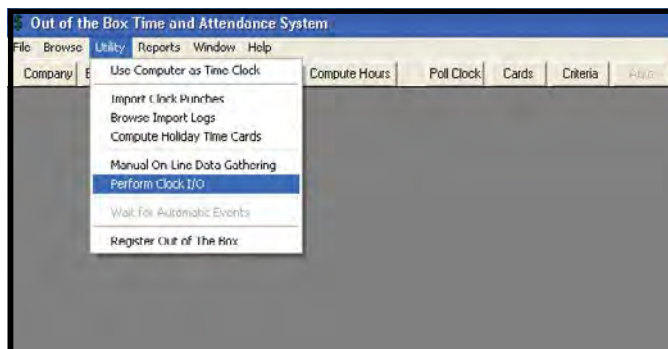

Figure 57. Out-of-the-Box™, Perform Clock I/O
- I. Open the Out-of-the-Box™ program, and click "Utility" > "Perform Clock I/O" (see Figure 57).